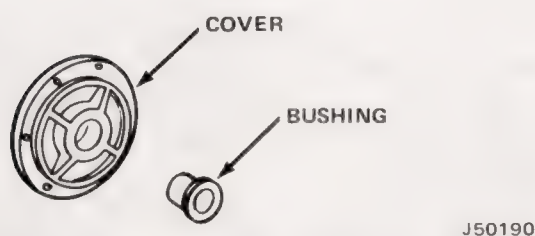

Fig. 5-26 Installing Gear Housing Cover Bushing
(1) Press new bushing into cover (fig. 5-26). Be sure bushing is pressed into cover straight and flange of bushing is down flat on boss.